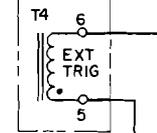

**Figure 3-8. Auto-Parallel Operation of Two Units**
**3-46 Overvoltage Protection in Auto-Parallel.** The interconnections shown in Figures 3-8 and 3-9 between transformer T4 in the master and T4 in the slave(s) must be made to permit the overvoltage crowbar in the master to fire the SCRs in the master and the slave(s) if an overvoltage condition occurs. The circuit board pads to be interconnected are marked "EXT TRIG" and their locations are indicated on the component location diagrams
**3-44** Use the rear panel and circuit board interconnections shown in Figure 3-8 or 3-9 to auto-parallel two or three supplies. This mode of operation provides a greater current capacity than can be obtained from a single supply while maintaining nearly equal load sharing among the paralleled supplies under all load conditions. Supplies having the same model number make the most practical auto-parallel combinations, but any of the supplies included in this manual that have equal current ratings may be used.